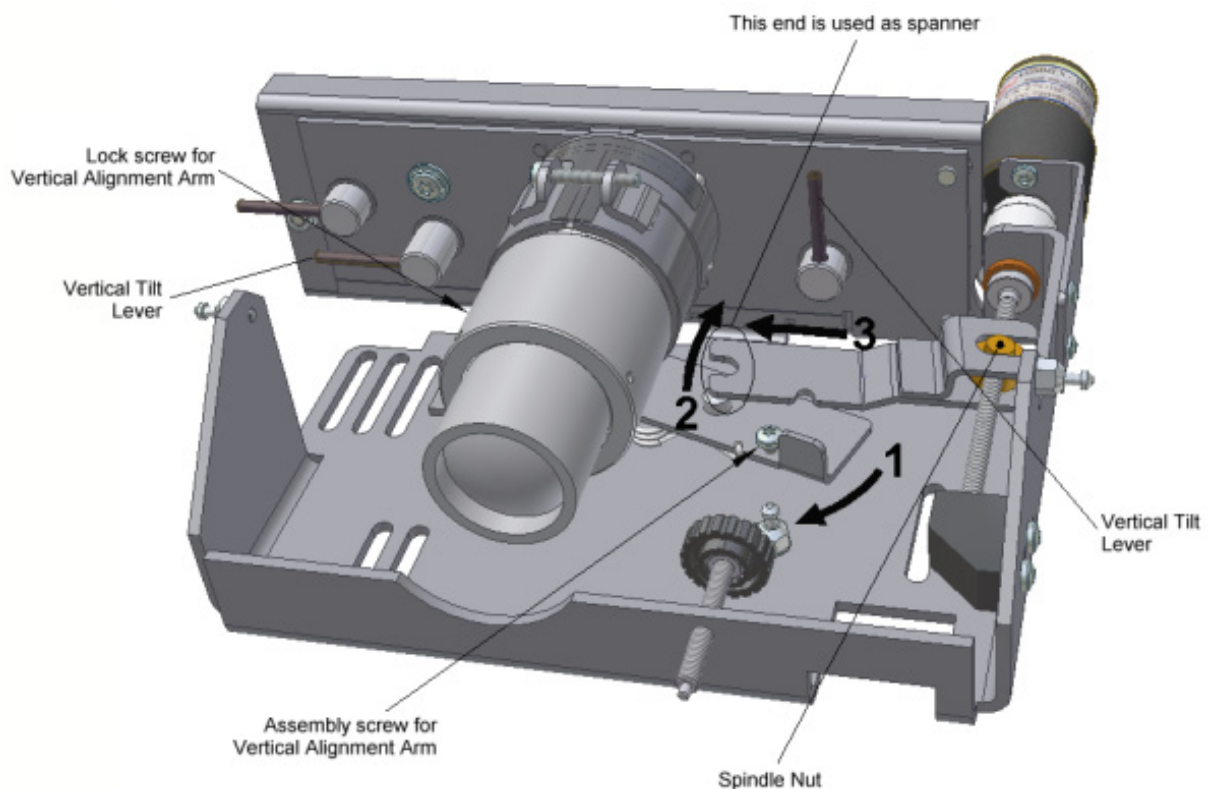

Fig. 4-1, CCD Camera (All except GY67D)
Refer to Fig. 4-1 page 44.
The vertical position is adjusted by turning the Vertical Adjustment Screw (located under the camera housing) which tilts the camera. The screw must be turned using a special spanner and as it can be seen in Fig. 4-1 page 44 the spanner is the one end of the upper half of the Vertical Alignment Arm. However, even when the Vertical Alignment Arm is not fixed to the Vertical Adjustment Screw the camera tilt will change slightly when turning the Vertical Alignment Arm. Because of this the Vertical Alignment Arm has to be installed and set to its initial position when adjusting the vertical position of the camera. As this rules out using the upper half of the Vertical Alignment Arm of the camera which is adjusted, this part is attached to the spindle console of the fixed camera (camera B). The sole purpose of this part is to be used when adjusting the camera tilt.
- Loosen the fixing screw and remove the arm. The end opposite to the spindle end is now used as a spanner for adjusting the Vertical Position, see Fig. 4-1 page 44.